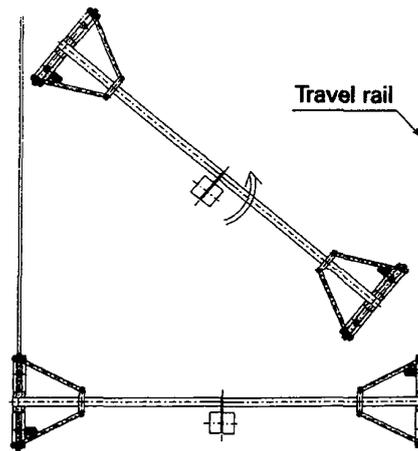

Fig. 3
- (a) Generally, the simple way to erect the completed crane is shown in Fig. 3. Lift the crane into position of following figure, then turn the crane so as to fit on the travel rails.